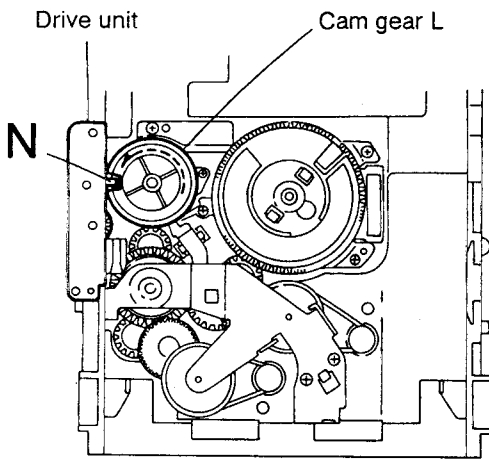

Fig.5-50
2. While turning the cam gear L, align the pawl "N" position of the drive unit to the notch position (Fig. 5-50) on the cam gear L.